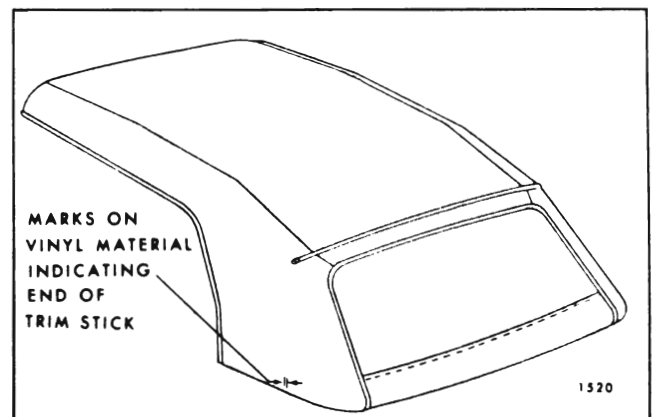

Fig. 13-8 — Marking Top Material
22. Using a pencil, mark both ends of rear and rear quarter trim sticks on vinyl surface of top material (Fig. 13-8). Reference marks for trim sticks should be transferred to new top material when step 28 of installation procedure is performed.